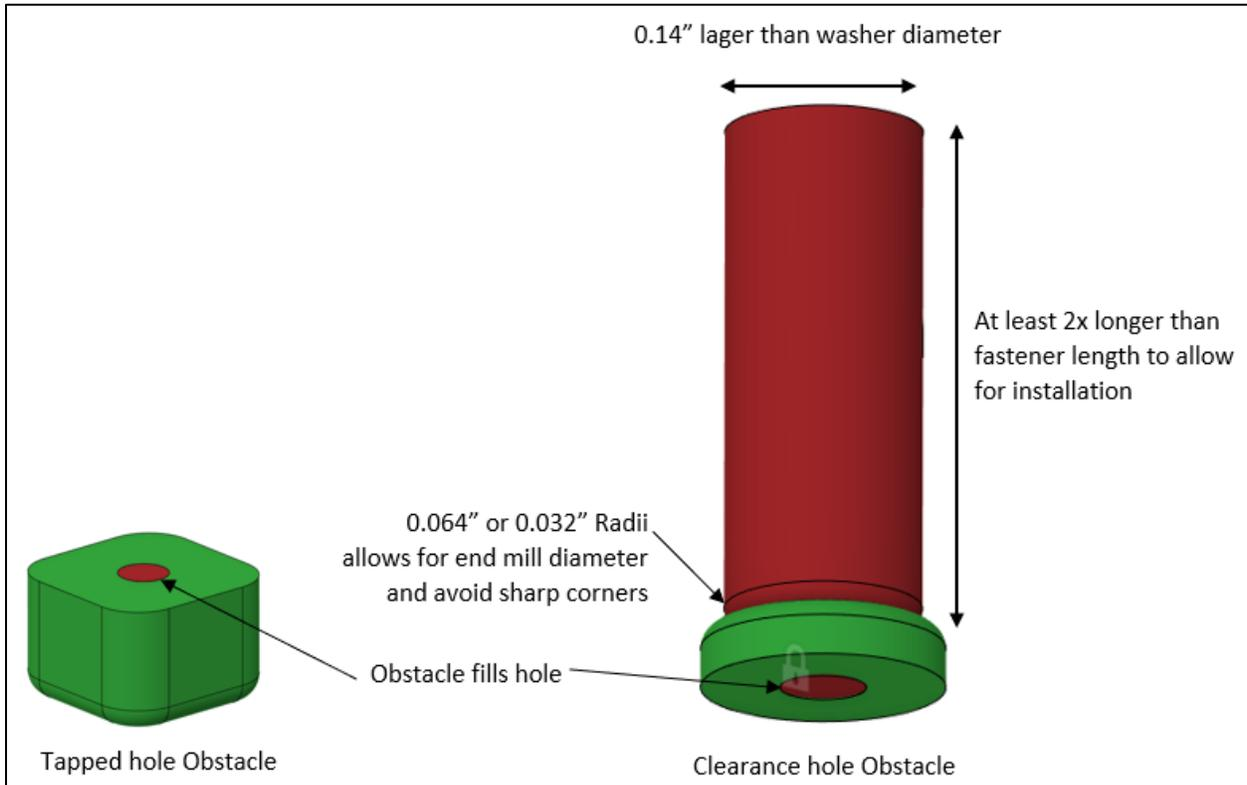

Figure 2-7. Recommended **Obstacle** for tapped holes (left) and clearance holes (right)..
Keep-out zones for the bolt and washer must be explicitly defined for each hole. The following **Obstacle** geometry is recommended for bolt holes in the *absence of other requirements*. See Figure 2-7. The **Obstacle** may be created with the built in **Connector Obstacle**  tool in Fusion 360, or with extrusions/revolves.
- An obstacle may also be needed below the bolted interface to prevent material from growing into the mating part as shown in Figure 2-7.